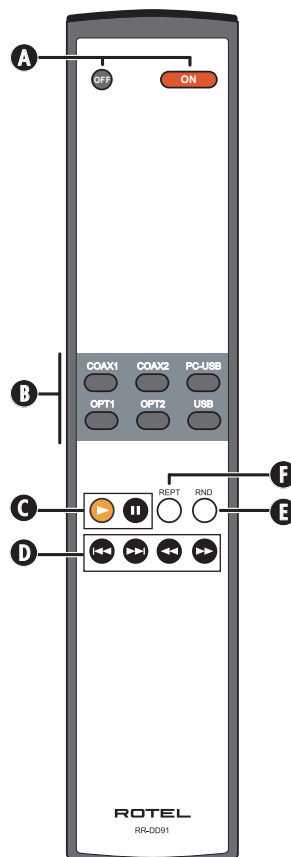

Figure 3: Analog Outputs and Digital Inputs
- Figure 3: Analog Outputs and Digital Inputs 4